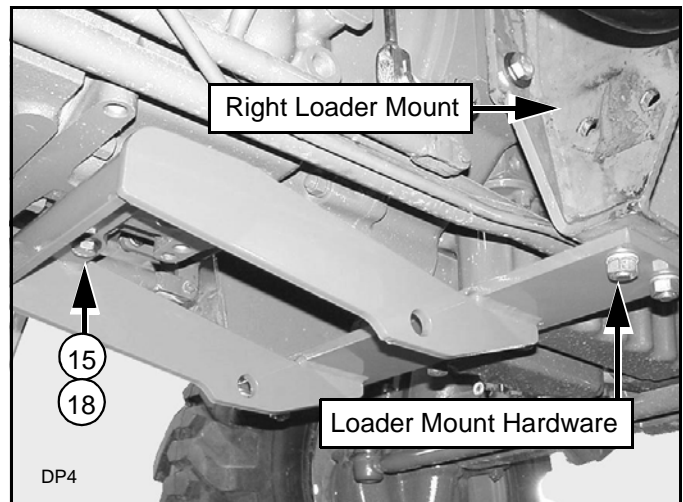

Figure 4 Front Mount Installed
2. Position front mount (4) under tractor and secure to right and left loader mounts using hardware previously removed, (Figure 4).
3. Secure rear half of mount to tractor frame using two cap screw (18) and hardened flat washers (15).